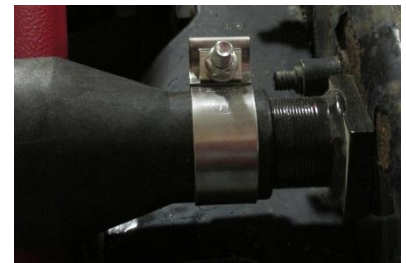

Figure 17
- Position the PB5054 tube clamp 1/4" inside the edge of the paddle bracket as shown in Figure 17.